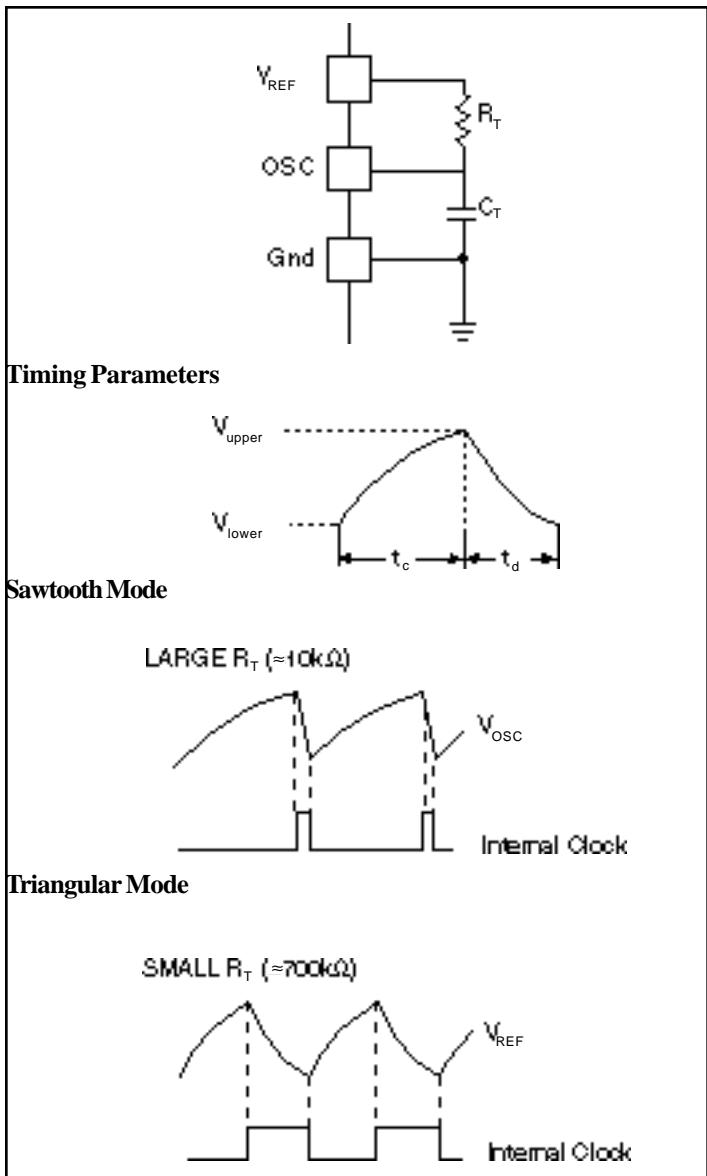

Figure 3: Oscillator Timing Network and parameters
**Electrical Characteristics:** Unless otherwise stated, specifications apply for  $-25 \leq T_A \leq 85^\circ\text{C}$  for CS-2842A/2843A,  $0 \leq T_A \leq 70^\circ\text{C}$  for CD-3842A/3843A.  $V_{CC}=15\text{V}$  (Note 1);  $R_T=680\Omega$ ,  $C_T=.022\mu\text{F}$  for triangular mode,  $R_T=10\text{k}\Omega$ ,  $C_T=3.3\text{nF}$  for sawtooth mode (see Fig. 3)
**Electrical Characteristics:** Unless otherwise stated, specifications apply for  $-25 \leq T_A \leq 85^\circ\text{C}$  for CS-2842A/2843A,  $0 \leq T_A \leq 70^\circ\text{C}$  for CD-3842A/3843A.  $V_{CC} = 15\text{V}$  (Note 1);  $R_T = 680\Omega$ ,  $C_T = .022\mu\text{F}$  for triangular mode,  $R_T = 10\text{k}\Omega$ ,  $C_T = 3.3\text{nF}$  for sawtooth mode (see Fig. 3)